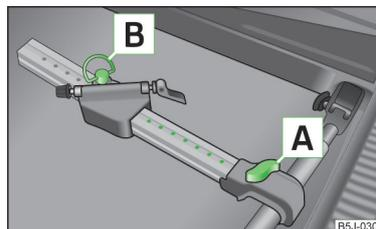

Fig. 74
- Remove bolt [A] » Fig. 74 a little and push the frame side rail (aluminium part) towards the cross member until the socket latches.
- › Undo bolt **A** » Fig. 74 on page 75 and push the bicycle carrier to the left together with the mounted bicycle to prevent a collision between the handlebars and the side window of the luggage compartment.